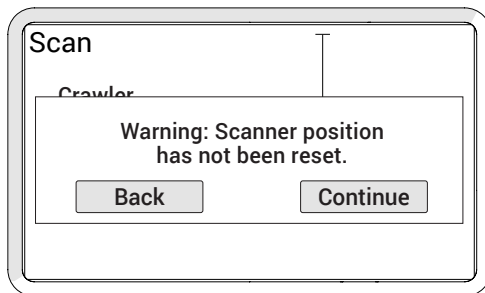

Fig. 187 - Exit warning
- 10 Exit button      Pressing **Exit** stops all scanning motion. A warning appears when the scanner is not in the **A** position, (Fig. 187). The warning alerts that the **A** position of the scanner will be changed to the current position.